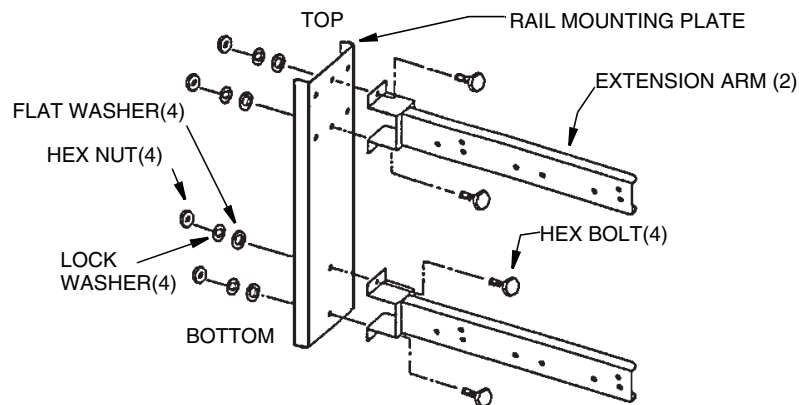

Figure 4. Assembly of Extension Arm to Rail Mounting Plate
1. Assemble each extension arm to rail mounting plate using the hardware provided. Each arm should use 2 hex bolts, 2 flat washers, 2 lock-washers, and 2 hex nuts. The extension arms must be assembled with the row of 6 holes placed on the bottom. The flat side (without flange) of the rail mounting plate should face the extension arms. The rail mounting plate should be assembled with 6 holes on top (see Figure 4). Tighten all nuts home with socket wrench.